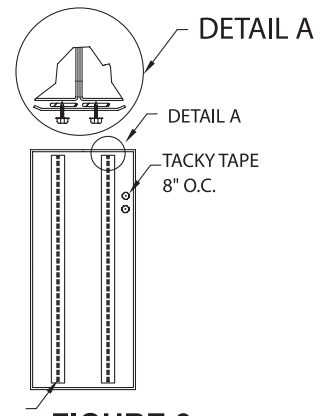

FIGURE 2
2. Slide adjoining section against the tacky taped first section. If bolt holes are provided, bolt the sections together tightly. If bolt holes are not provided, use furniture clamps to pull sections TIGHTLY together. Sections, whether bolted or not, will be held together and sealed by the standing seams and hugger strips (Fig. 2), which will be attached later.
5. Apply two strips of tacky tape (one down each side) to the back side of each hugger strip (Fig. 2). Secure hugger strip with two rows of TEK screws (one down each side) spaced approximately 8-10 inches apart down the entire length of the seam.